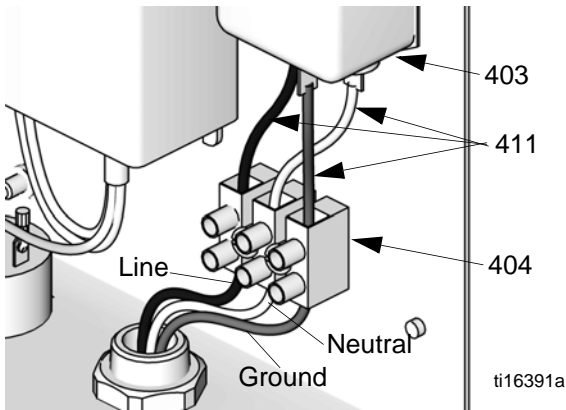
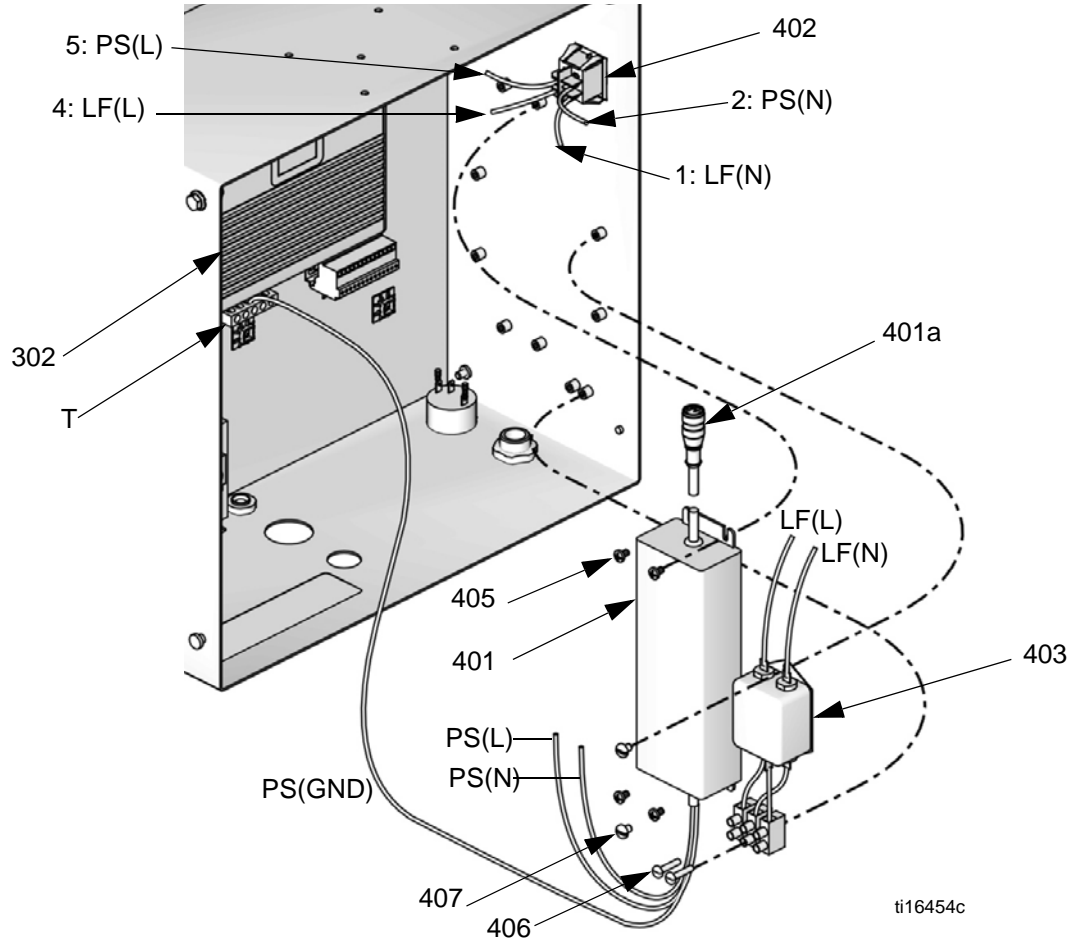

FIG. 5. Terminal Block Electrical Connections
FIG. 8. Replace Wall Power Supply
4. See FIG. 8. Disconnect the power supply CAN cable (401a) from the advanced fluid control module (302).
5. Disconnect line filter wires and power supply wires from the power switch (402).
6. Disconnect the power supply ground wire, PS(GND), from the advanced fluid control module ground terminal (T).
7. Remove four screws (405) and remove power supply (401). If replacing filter, remove two screws (407) and the filter (403).
8. Install the new power supply (401) and line filter (403), using supplied screws (405, 407), as shown.
9. See FIG. 8. Connect wire harness (410/LF) to the line filter (403) and to the power switch (402), as shown. See also Electrical schematic.
10. Connect the power supply wire harness (411/PS) to the switch (402), as shown. See also Electrical Schematic. Connect the PS ground wire to the ground terminal (T) of the advanced fluid control module.
11. See FIG. 5. Connect wire harness (411) to the line filter (403) and terminal block (404) as shown. See also Electrical Schematic.